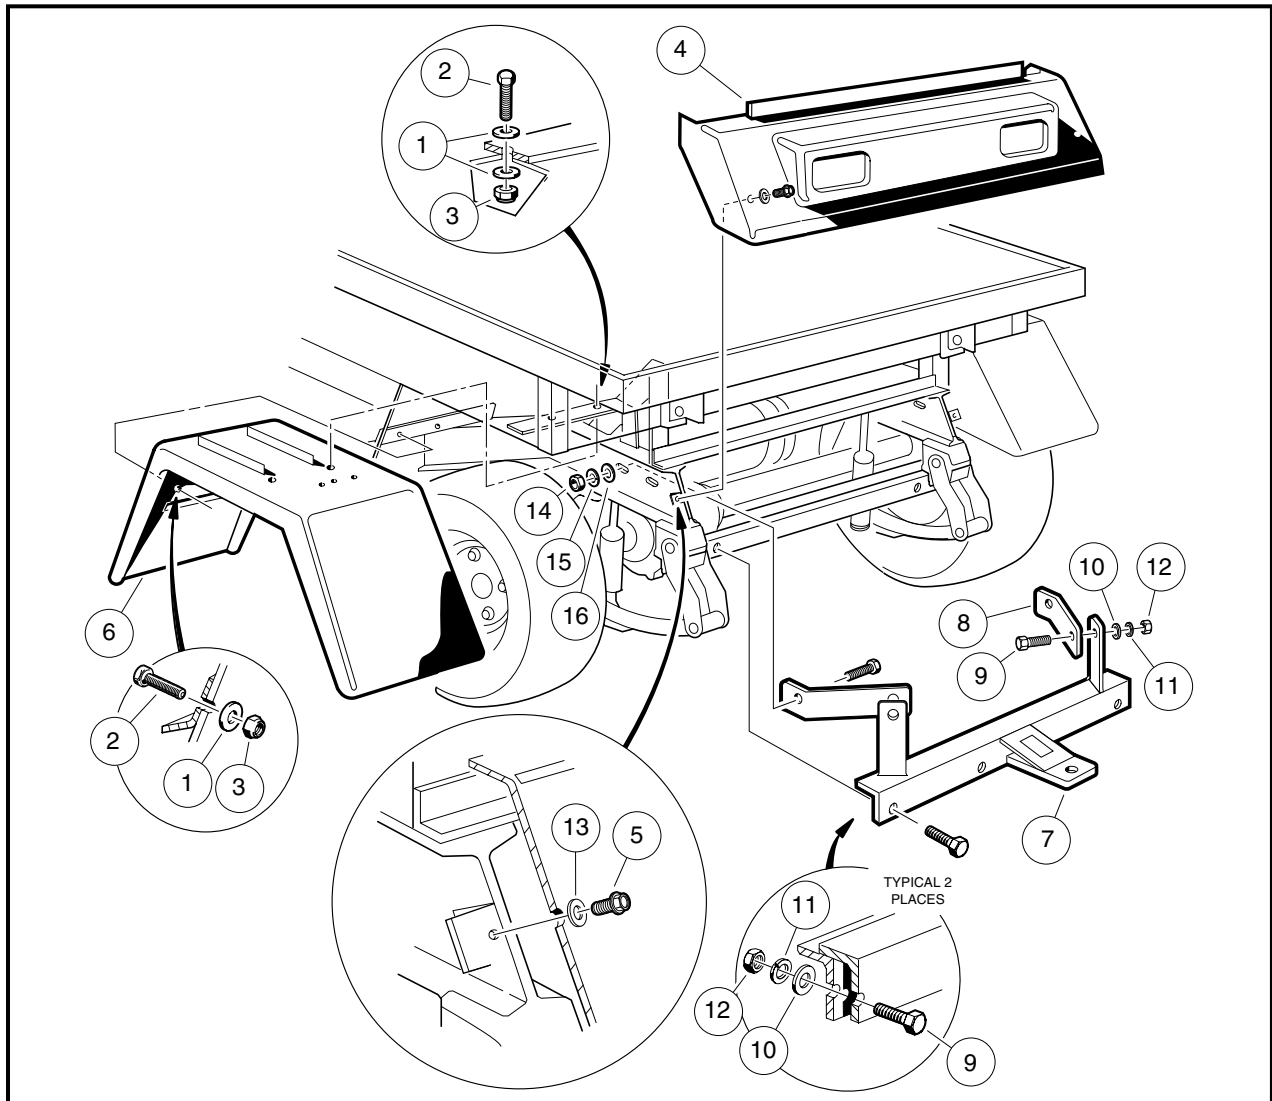
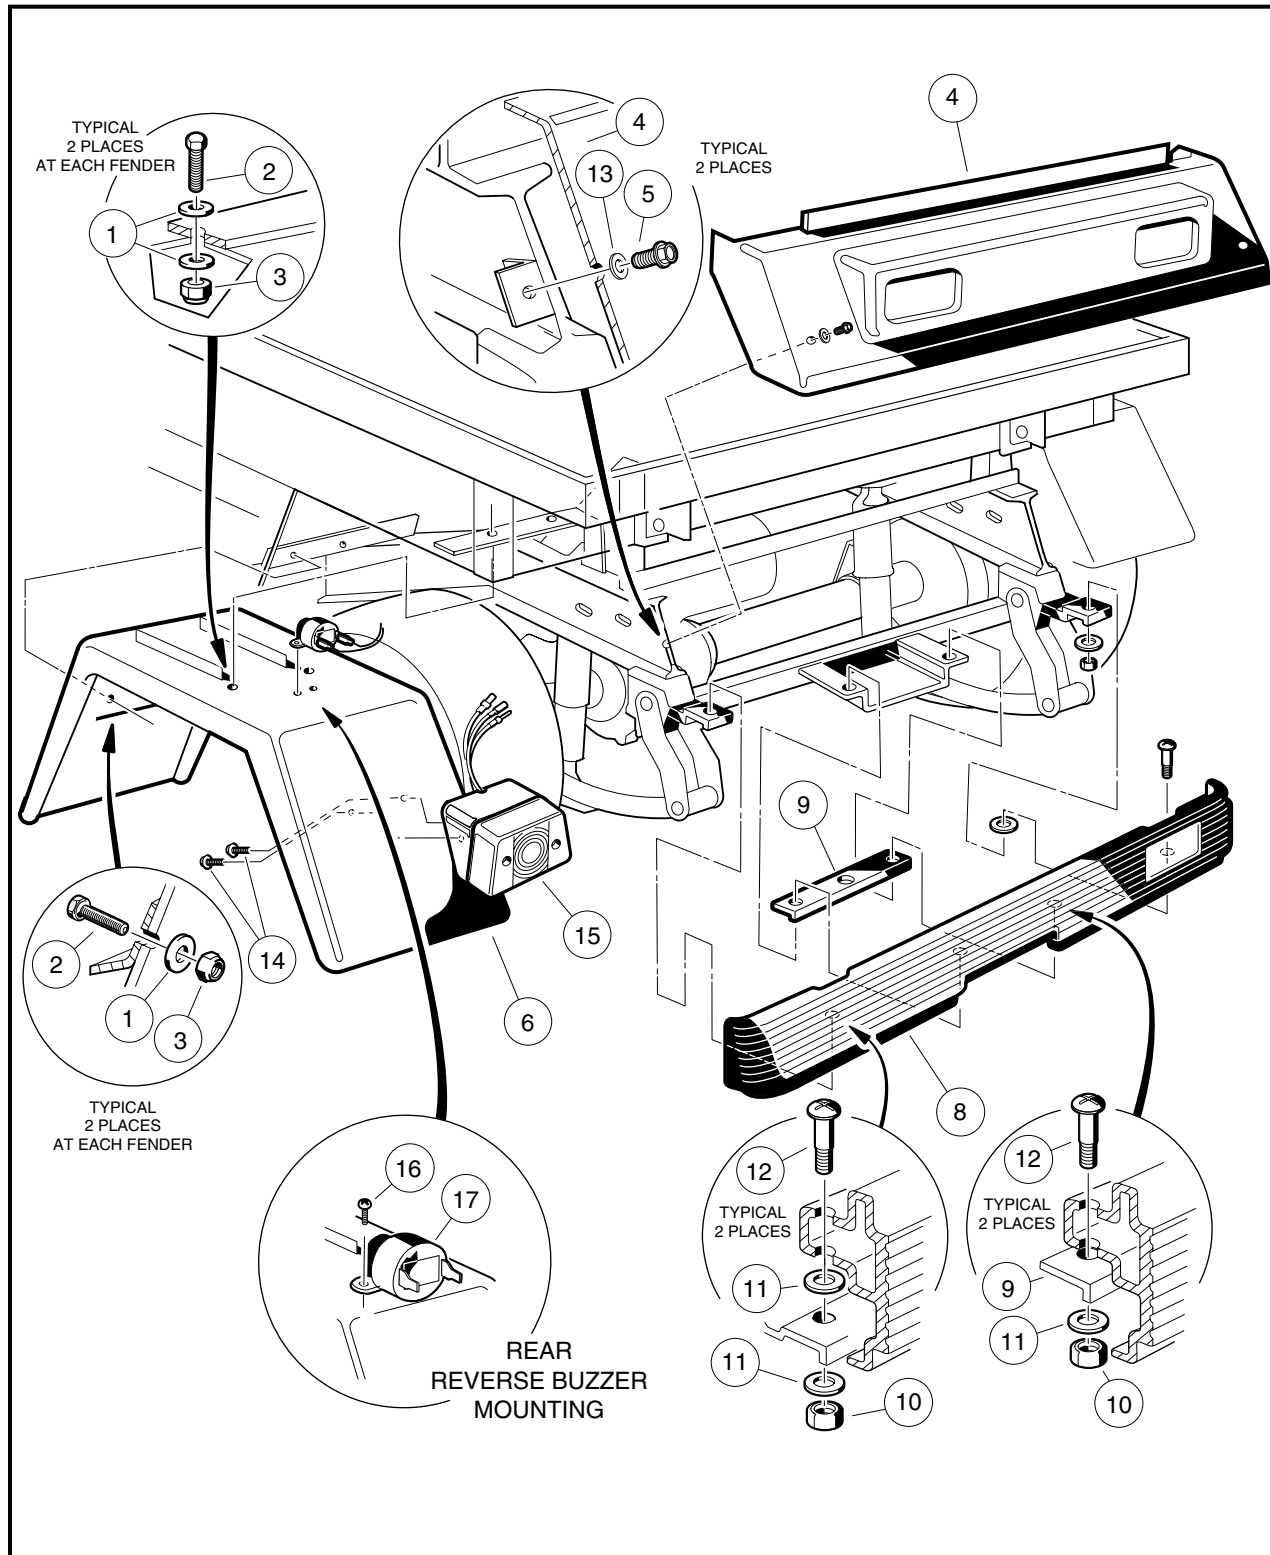

Figure 4-5 Rear Fender, Trailer Hitch and Tailskirt – Turf 1, 2, Carryall 1, 2, and 2 Plus
Figure 4-6 Rear Fender and Tailskirt – Turf 6 and Carryall 6
- 1.1. Remove the two screws (14) that secure taillight (15) to the rear fender (**Figure 4-6, Page 4-12**).
2. Remove two nylon lock nuts (3), flat washers (1), and 1/4 x 1 bolts (2) from front of fender (6) (**Figure 4-5, Page 4-11 or Figure 4-6, Page 4-12**).
3. Remove two nylon lock nuts (3), flat washers (1), and 1/4 x 1 bolts (2) and flat washers (1) from the top of fender (6) (**Figure 4-5, Page 4-11 or Figure 4-6, Page 4-12**).
- 4.1. Remove pan-head screws (16) connecting reverse buzzer (17) to rear fender (6) and disconnect the two wires from the reverse buzzer (**Figure 4-6, Page 4-12**).
5. Remove fender (6) from vehicle (**Figure 4-5, Page 4-11 or Figure 4-6, Page 4-12**).
2. Where the hitch (7) is mounted to frame, remove two nuts (12), lock washers (11), flat washers (10), and bolts (9) (**Figure 4-5, Page 4-11**).
3. Where the hitch (7) is mounted to hitch brace (8), remove the nut (12), lock washer (11), flat washer (10), and bolt (9).
4. Remove hitch (7) from vehicle.
1. Install trailer hitch (14) in the reverse order of removal. (**Figure 4-5, Page 4-11**). Tighten hardware to 15 ft-lb (20.3 N·m).
1. Remove two thread-forming screws (5) and flat washers (13) from tailskirt (4) and lift tailskirt from vehicle frame (**Figure 4-5, Page 4-11 or Figure 4-6, Page 4-12**).
1. Insert upper edge of tailskirt (4) under, and in front of, back edge of rear body (**Figure 4-5, Page 4-11 or Figure 4-6, Page 4-12**).
2. Align holes in tailskirt (4) with holes in vehicle frame. Position tailskirt flush against frame.
3. Install two thread-forming screws (5) and flat washers (13) in tailskirt and tighten to 55 in-lb (6.215 N·m).
1. Remove four lock nuts (10), six flat washers (11), four phillips bolts (12), and mounting plate (9) from rear bumper (8) (**Figure 4-6, Page 4-12**).
1. Install the rear bumper in the reverse order of removal. Tighten nuts to 65 in-lb (7.3 N·m) (**Figure 4-6, Page 4-12**).